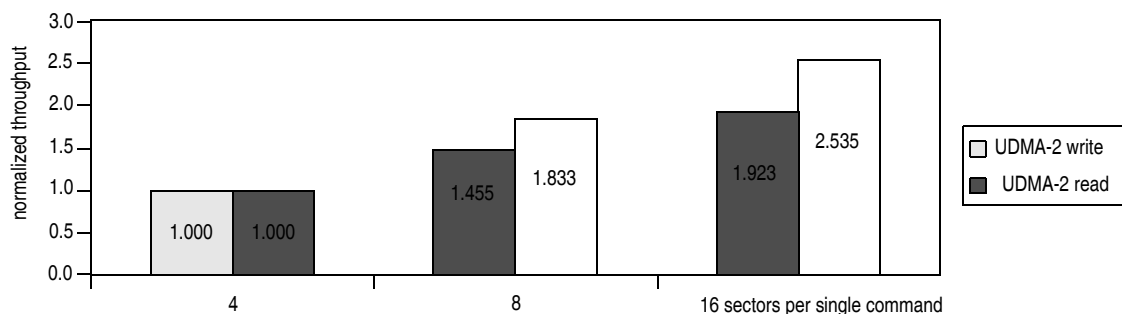

Figure 4. ATA Relative Throughput Improvement
- Reading/writing of the maximum number of sectors per single ATA command (see Figure 4¹⁰). Regular hard disk defragmentation is essential
Looking at Table 7, the question arises as to why the throughput improvement indicated in Figure 4 is not as expected. The answer is simple; it is writing/reading the same LBA address with the look-ahead/write cache feature disabled. The time needed to read data from the interface is much smaller (microseconds) than the average seek time (milliseconds).